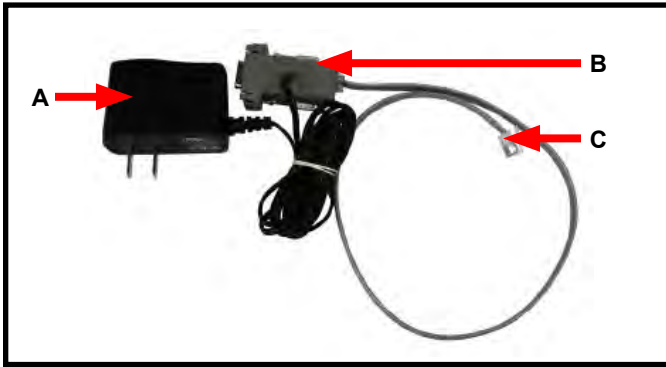

Figure 98. Powered Serial Connector
If a mistake is made in your settings, you will not be able to communicate with the Wireless Network Adapter through Ethernet or wireless signal. Access can only be gained by using the included powered serial connector (see Figure 98). Continue to "POWERED SERIAL CONNECTOR" to view the procedure.
- II. Insert the Powered Serial Connector's telephone cable (Figure 98, C) into the Wireless Network Adapter's RS-232 communication jack (Figure 18, B).
- III. Connect the Powered Serial Connector's serial adapter (Figure 98, B) into an available COM port located on the back of your PC.
- IV. Connect the Powered Serial Connector's power supply (Figure 98, A) into a power outlet.